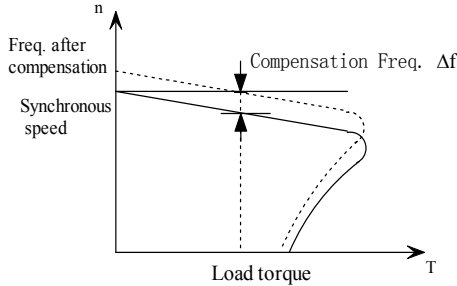

Fig. 5-9-4 Auto slip compensation diagram
- ◆ The motor's slip changes with the load torque, which results in the variance of motor speed. The inverter output frequency can be adjusted automatically through slip compensation according to the load torque. Therefore, the electrical characteristics of the mechanical hardness are improved. As shown in Fig. 5-9-4.